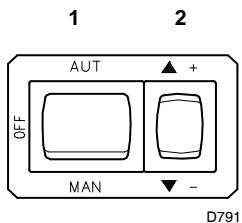
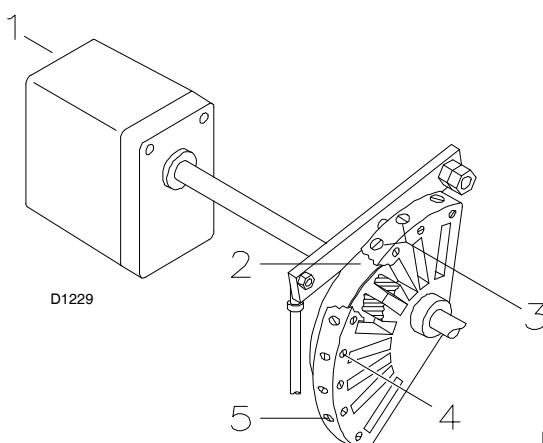
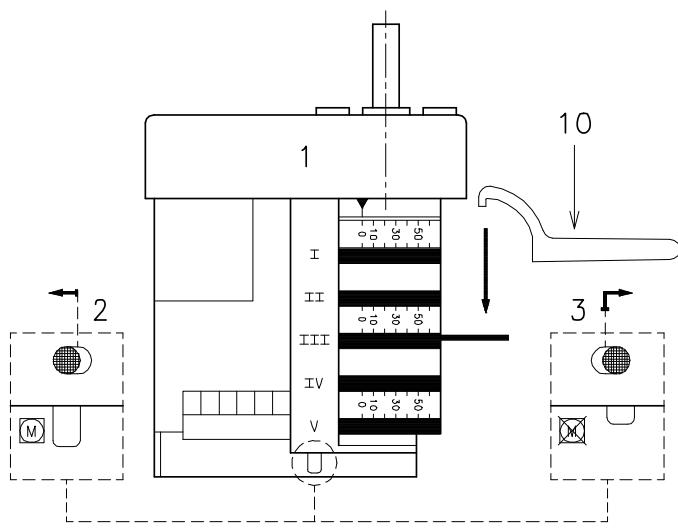

Fig. 24
Fig. 27
Fig. 28
Close load controls and set switch 1) (Fig. 24) to "MAN". After burner firing a complete burner adjustment should be performed.
Set switch 1) (Fig. 24) to "ON".
In the above instructions we left the burner running in MIN output operation. Now press button 2) (Fig. 24) "+" until servomotor arrives at 130°.
Progressively adjust the end profile of cam 2) (Fig. 27) using adjustment screws 5).
Press button 2) (Fig. 24, page 20) "output reduction" and keep it pressed until the servomotor has reached 20° (factory setting).
Progressively adjust the starting profile of cam 2) (Fig. 27) by turning the screws 3).
Press the switch 2) (Fig. 24, page 20) "output increase" a little so that the servomotor turns by about 15°. Adjust the screws until optimal combustion is obtained. Proceed in the same way with the other screws.
Switch the burner off with switch 1) (Fig. 24, page 20), at the OFF position, disengage the cam 2) (Fig. 27) from the servomotor, by pressing the button 3) (Fig. 28) and moving it to the right, and check more than once that the movement is soft and smooth, and does not grip, by rotating the cam 2) forward and backward by hand.
Engage cam 2) to the servomotor again by moving button 2) (Fig. 28) to the left.
Finally fix the adjustment by turning screws 4) (Fig. 27).
In order to adjust cam III, especially for fine movements, key 10) (Fig. 28), held by a magnet under the servomotor, can be used.
Servomotor starts: 130° rotation to right, until contact is made on cam I) (Fig. 28, page 22). The air gate valve is positioned on MAX. output.
Servomotor rotates to left until contact is made on cam III) (Fig. 28, page 22).
- The burner locks out when demand for heat is less than the heat supplied by the burner in the MIN output (section F-G). Load control TL opens. The servomotor returns to the 0° angle limited by contact with cam II) (Fig. 28, page 22). The gate valve closes completely to reduce thermal dispersion to a minimum.
Disengage the cam 2) (Fig. 27, page 21) from the servomotor, by pressing and moving button 3) (Fig. 28, page 22) towards the right, and turn it backwards and forwards by hand to make sure it moves freely. Now engage the cam again by moving the button 2) (Fig. 28, page 22) to the left.